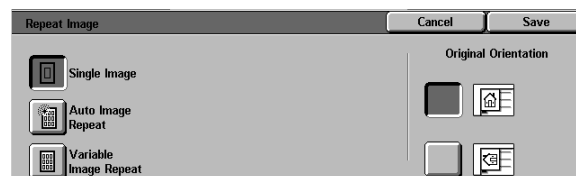

Figure 11: Repeat Image screen
- 1 Touch the **Repeat Image** icon on the Output Formats tab to display the Repeat Image screen, as in Figure 11.